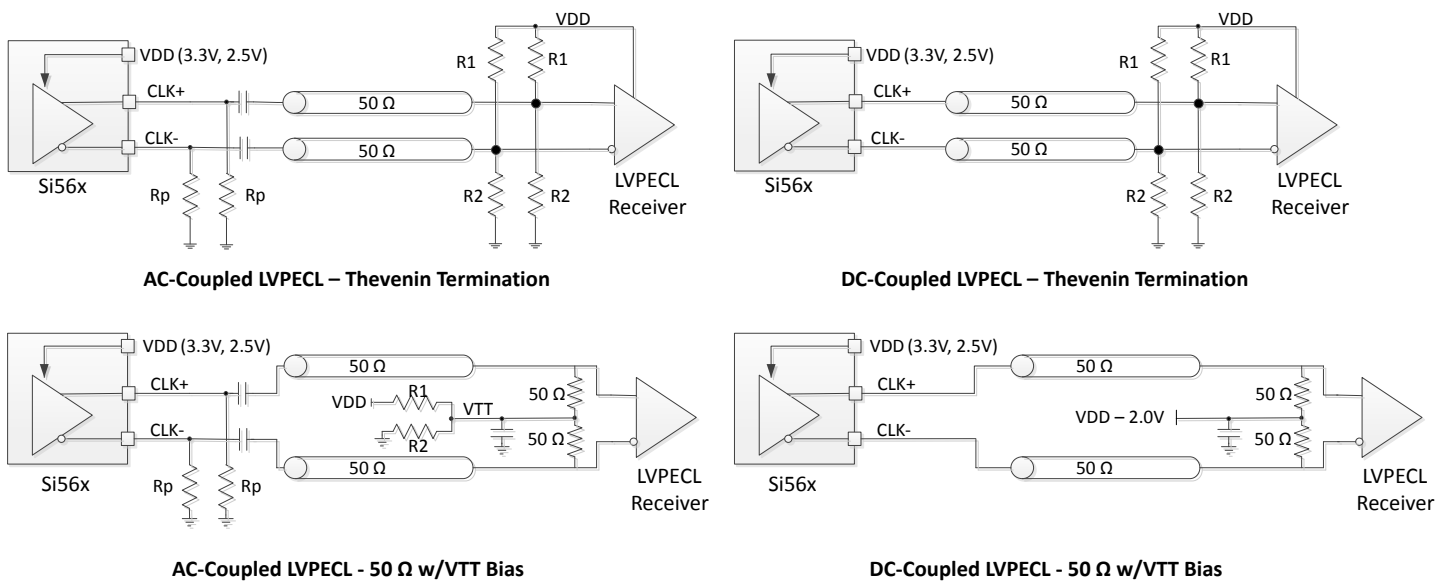

Figure 4.1. LVPECL Output Terminations
- R_{term} = 50 Ω to V_{DD} – 2.0 V (see Figure 4.1). Additional DC current from the output driver will flow through the 50 Ω resistors, resulting in a shift in common mode voltage. The measurements in this table have accounted for this.